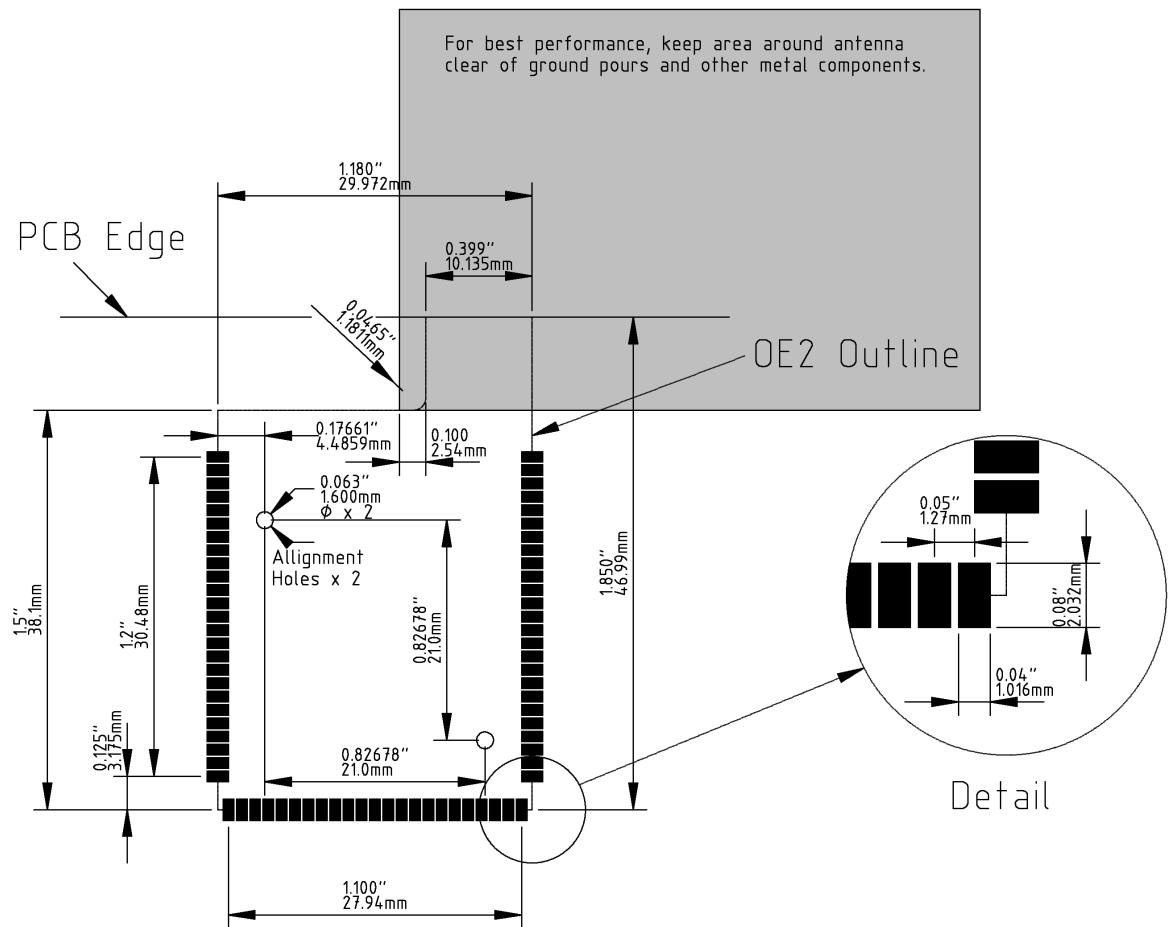

Figure 5: Suggested Footprint For Printed Circuit Board Layout
- When mounting the IE2 Module onto a host PCB, use the suggested PCB footprint in Figure 5 for best results.